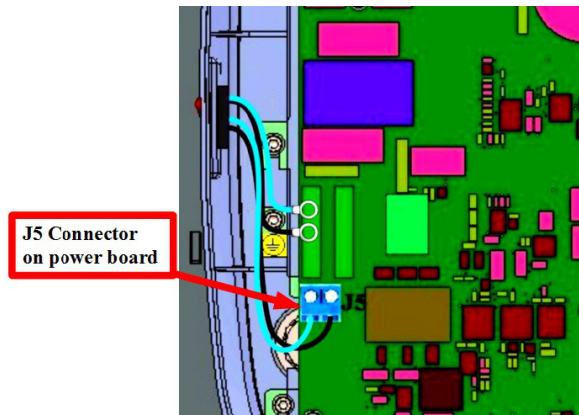

Figure 82
- Disconnect the wires(Pin terminals) from the J5 connector on the power board using a Jewel screw driver as shown in Figure 82 (Live=Blue & Neutral=Black).
- Connect the wires(Pin terminals) coming from the switch to the J5 connector on the power board (holding the connector firmly by hand) as shown in Figure 82 (Live=Blue & Neutral=Black) using a Jewel screwdriver.